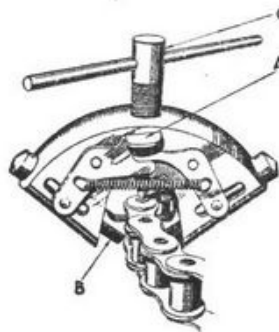

Fig. X7.
A chain rarely breaks if it is kept properly lubricated and adjusted. Usually it is worn out long before it reaches breaking point. The rear chain is the most heavily stressed and is therefore the one most likely to give trouble. Spare parts should be carried to enable the rider to carry out a repair on the road with the aid of a chain rivet extractor (see Fig. X7). The front chain will probably be worn out before it requires shortening.
First press down lever A (Fig. X7) to open the two jaws (B). Insert the link to be removed so that the jaws grip the roller and support the uppermost inner side plate. The Punch (C) is then screwed down on to the rivet head until the rivet is forced through the outer plate.